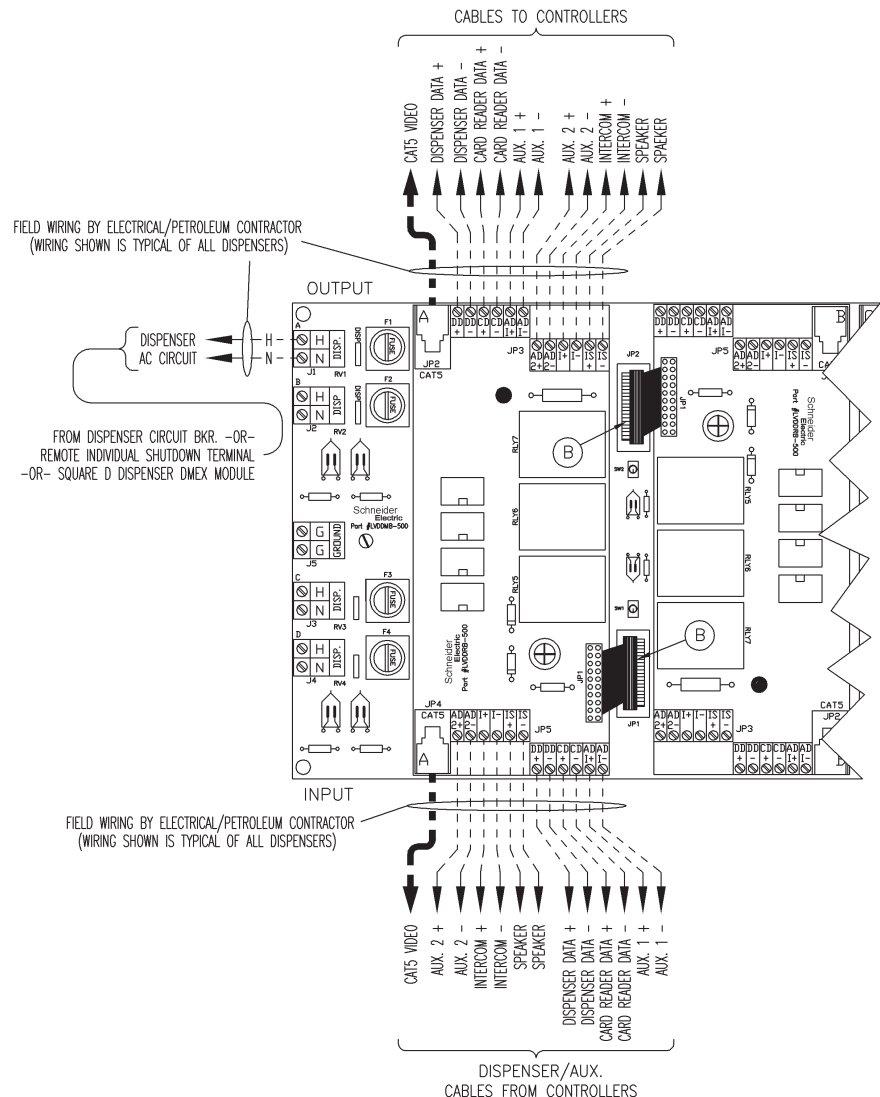

Figure 6 — Typical Wiring Diagram for Video Model
3. Connect the Dispenser AC circuit, Dispenser Data, Card Reader Data, Auxiliary and Ethernet cables (if applicable) to the Low Voltage Dispenser Disconnect board as shown in Figure 6.